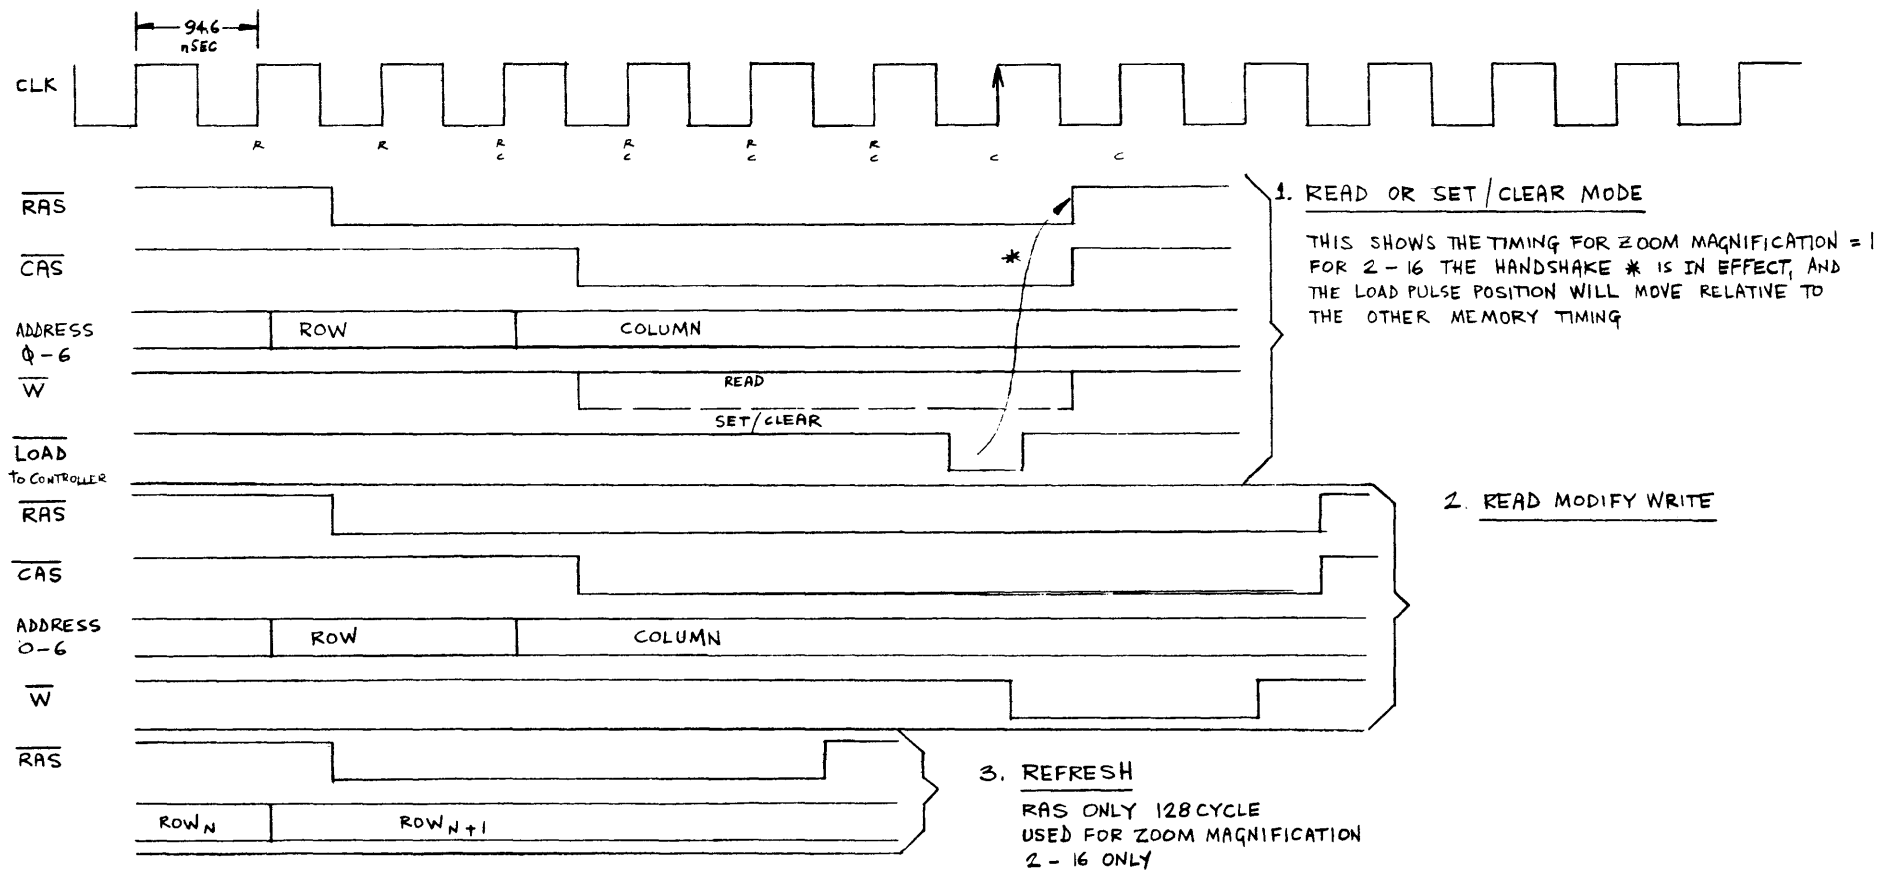

Figure 4
- 3.12.1 The Bit counter (U611) and shift logic (U39, Pin 3 and U49, Pins 6 and 12) control the display register mode and supply a load pulse for the M-Controller - Graphics Display handshake (see figure 4).
Prior to 103.D2 the M-controller reads the first memory word to be displayed. The 16clock period which follows is then used to preshift the data if required and read the second memory word to be displayed (figure 4).
display handshake (figure 4).